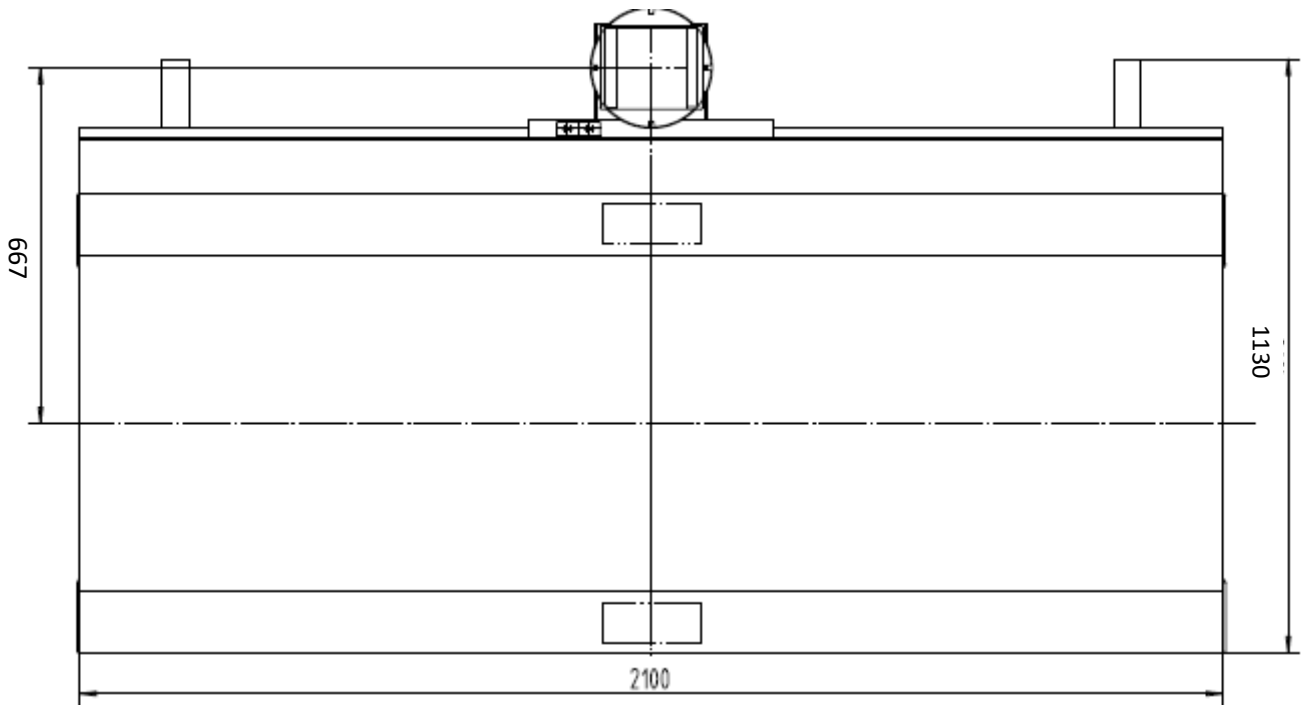

Figure 5-9 Integrated Table Top View (Standard)
- Integrated Table - Figure 5-4 through Figure 5-9.